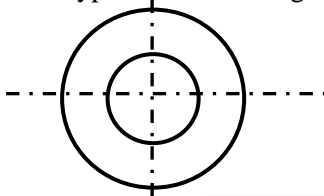

Figure 6
29. Recognize the type of circles in figure 6 below.